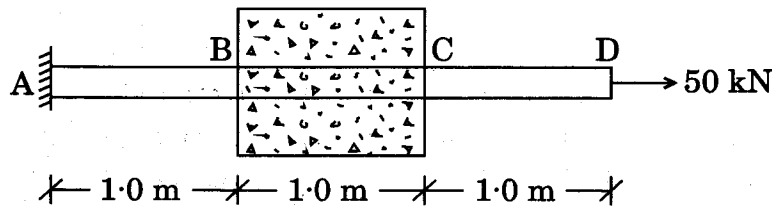

Figure 1
- (b) A semi-composite steel bar as shown in Figure 1 is loaded at free end with an axial load of 50 kN. Determine the axial stiffness of the system and extension of the free end. Diameter of steel bar is 40 mm, outer diameter of the concrete portion is 200 mm. Modulus of elasticity of steel = 200 GPa, Modulus of elasticity of concrete = 20 GPa. Central portion of the bar is embedded with concrete. 12